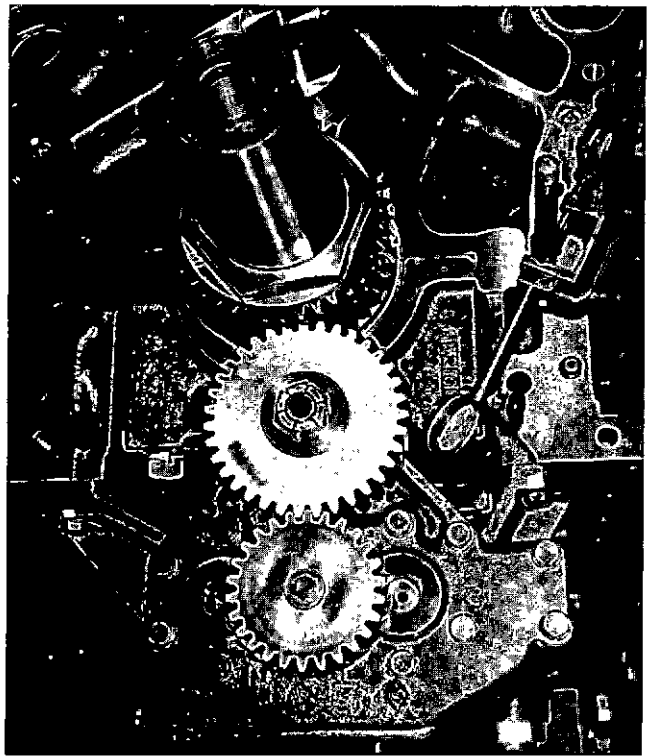

Fig. 14-1-24, V414130. Check lubricating oil pump gear backlash
2. Attach a dial indicator to block. Place indicator arm on gear teeth. Fig. 14-1-24.